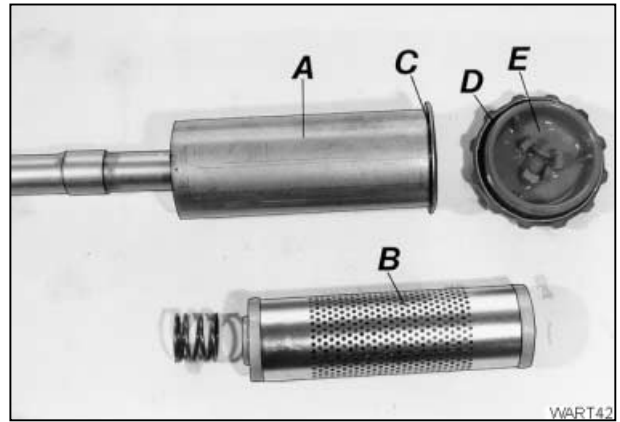

Fig.43
- Small volumes of oil can be poured in through the dipstick aperture (A).
- When replacing the oil, fill oil via return-flow aperture (B).
When filling via aperture (B), always remove filter bowl and filter cartridge (refer to CARE AND MAINTENANCE Fig. 43/A).